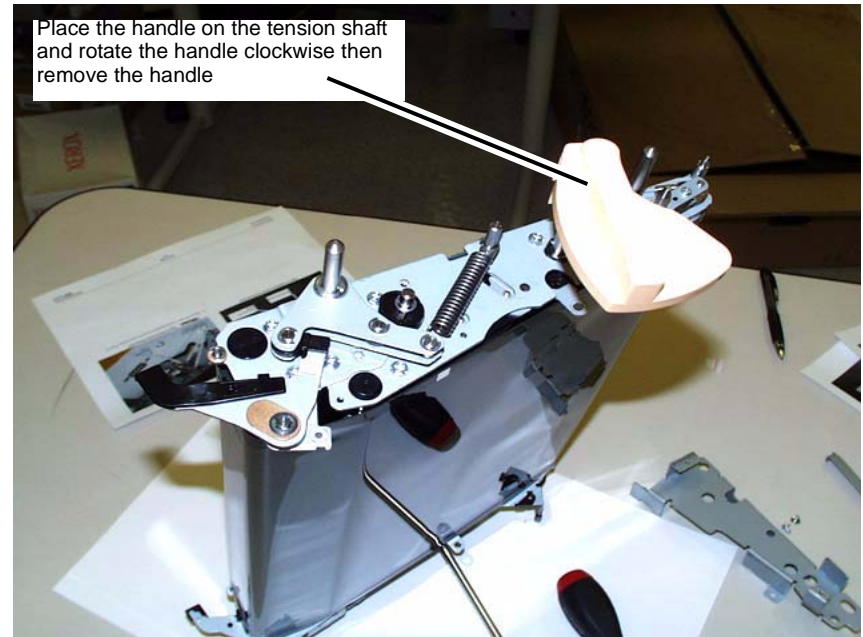

Figure 6 Releasing the Belt tension
10. Release the tension of the Belt. (Figure 6)